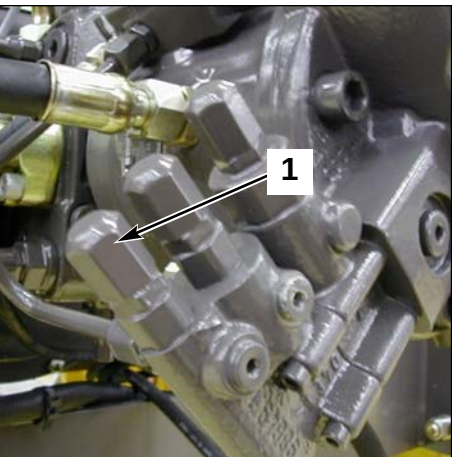

Fig. 3 Equipment pump
- 6- Undo the lock nut and turn the L.R. valve's screw (1 fig. 3) clockwise to increase the pressure.